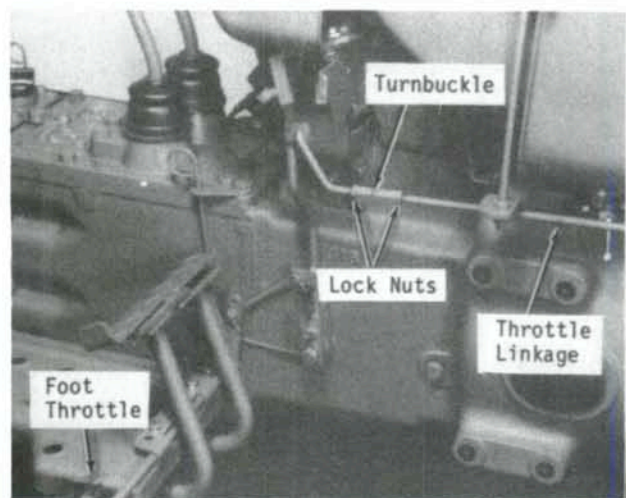

Fig. 126 - View of throttle linkage typical of 1310, 1500, 1510, 1700, 1710, 1900, 1910 and 2110 models. Refer to text for adjustment procedure.
66. To adjust engine speed, first start engine and operate until warm. Move throttle lever to slow idle detent position. Engine speed should be 750-850 rpm on all models. If low idle speed is incorrect, loosen locknuts and turn throttle control rod turnbuckle (Fig. 126) as required until correct speed is obtained.